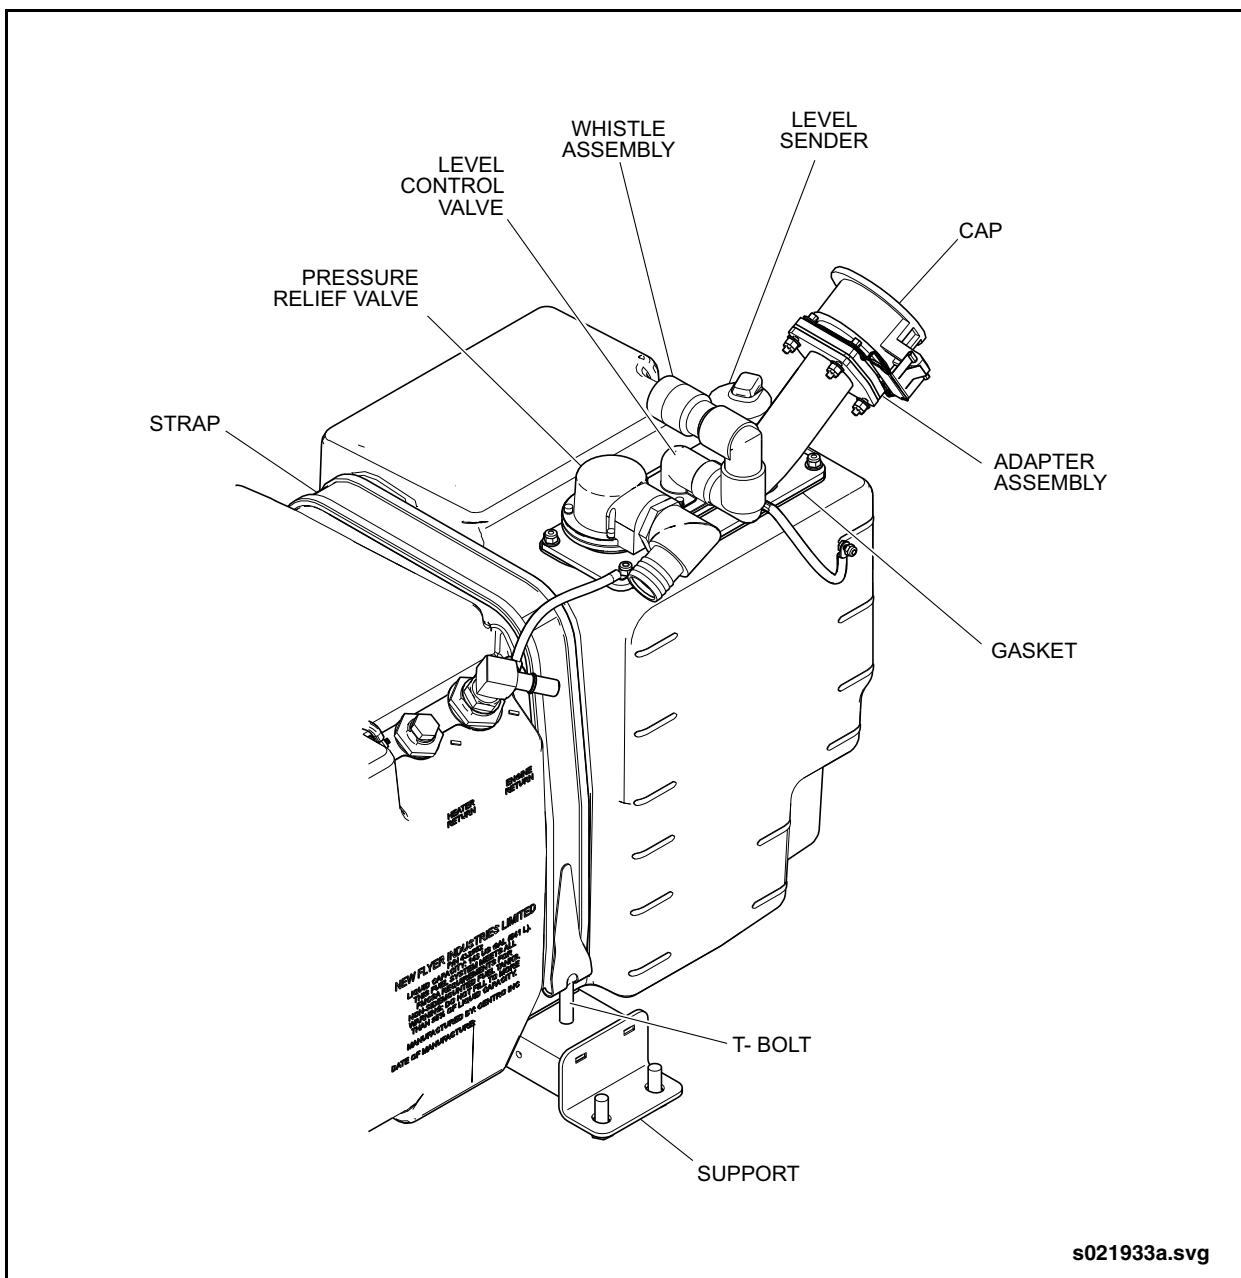

Fig. 7-2: Fuel Tank Accessories
3. Remove fuel tank components. See "Fig. 7-2: Fuel Tank Accessories" on page 5.